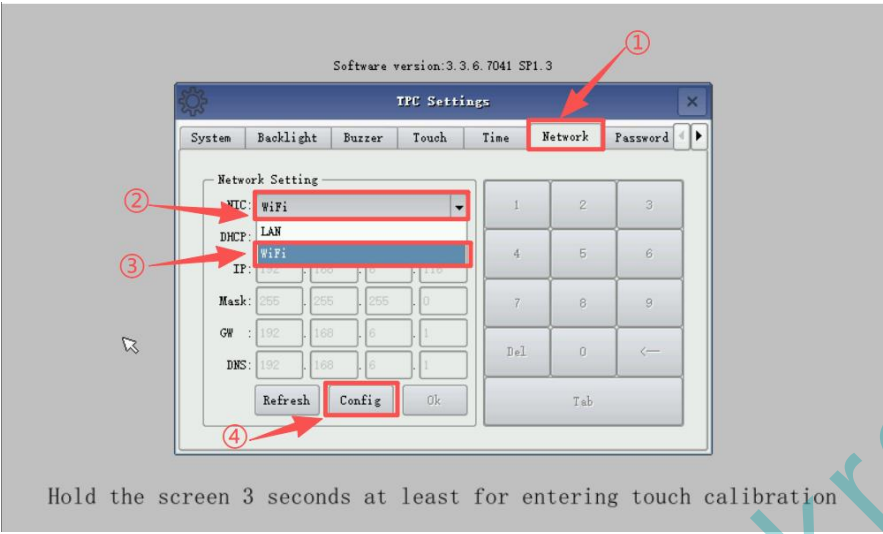

Figure 7.27: WiFi Configuration Interface 1
4) Click the "Network" option in the title bar of the "TPC System Settings" interface to display the Network Settings screen. On this screen, click the drop-down menu next to "Network Adapter," and then select "WiFi" from the options that appear. If the selection field updates to display "WiFi," the selection was successful; then, click the "Configure" button located below (as shown in Figure 7.27).